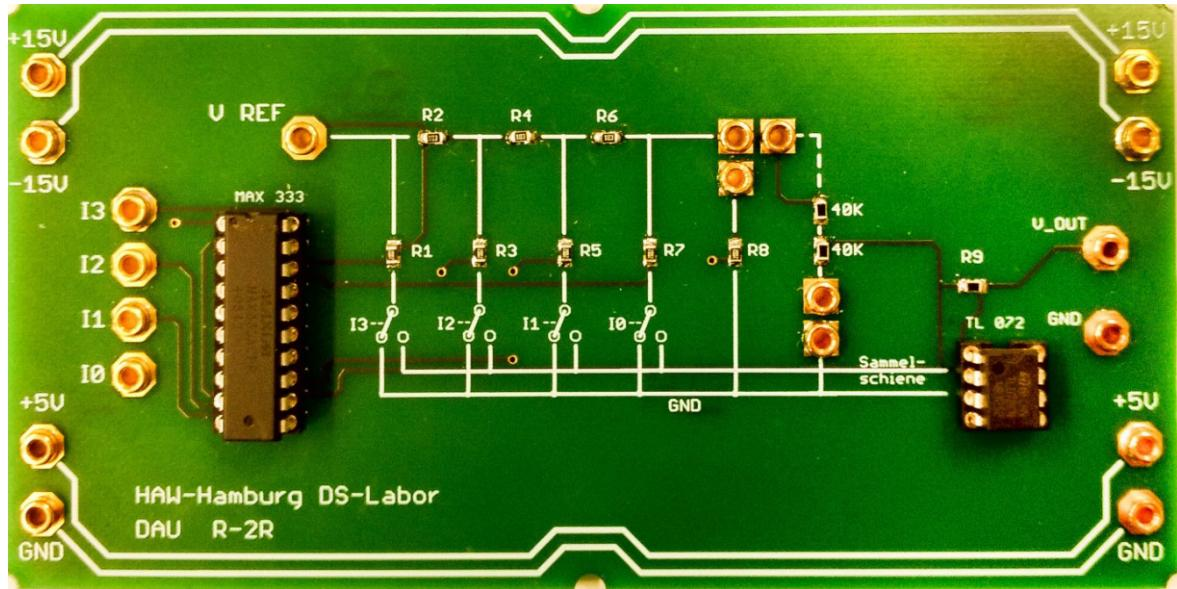

Figure 2: R-2R Network Circuit Board [1]
To setup this circuit the printed circuit boards in figure 2 and 5 can be used.
- All the necessary components are contained on the two printed circuit boards shown in figures 2 and 5. Plan the setup using the two printed circuit boards. Find the correct setting for the control pins of all integrated circuits.